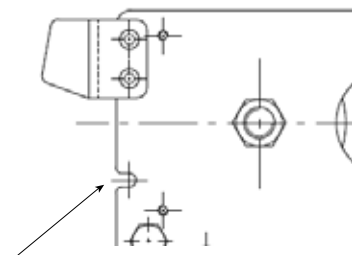

fig.80
- ▶ fig.80. If there is a power supply line with under-beam trolleys (E46*), fit the 6x50 screws using the nuts and washers supplied, in order to prevent interference between the DMK trolley and the electric system.